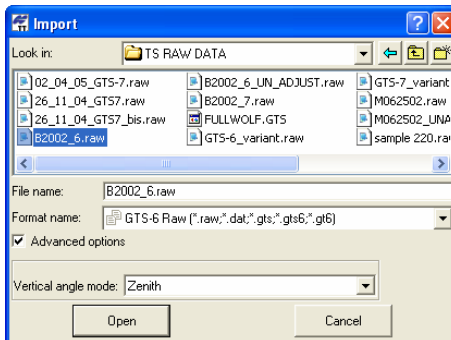

Figure 3-28. Import TS Obs File
4. Set the desired *Advanced* options (Figure 3-28 on page 3-28): define the projection type, grid->ground transformation parameters, coordinate order, and type of vertical angle if known. Note that TS Raw Data files do not contain information about coordinate order and projection type. By default, the TS Obs file will be treated as if it uses the job's coordinate order and projection type after imputing.